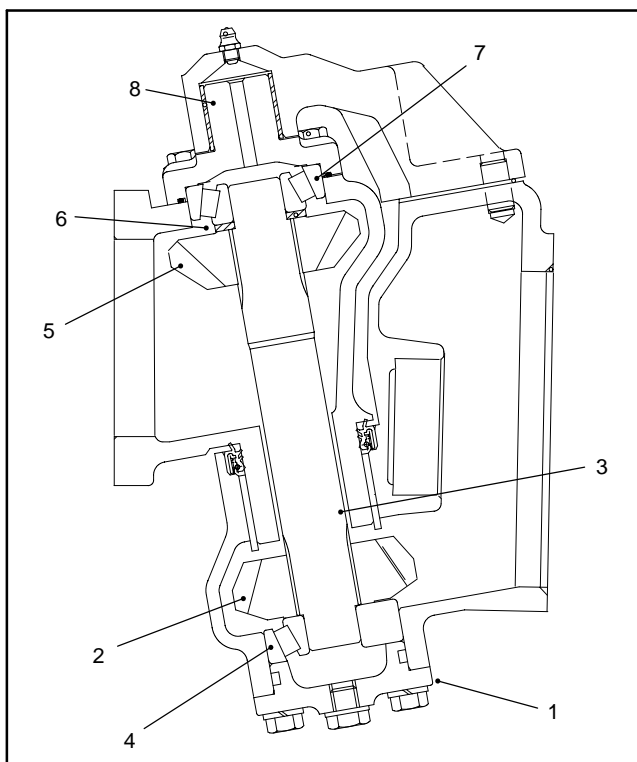

Figure 23
2. Install the lower bevel gear and bevel gear shaft in the axle case cover. Coat a new O-ring with grease and install the axle case cover (Fig. 23). Torque cover screws from **17 to 20 ft-lb (23 to 27 N-m)**.
3. Slide the bevel gear case over the bevel gear shaft and install the bevel gear and collar. Make sure the bevel gear shaft is completely seated in the upper and lower bearings (Fig. 23).